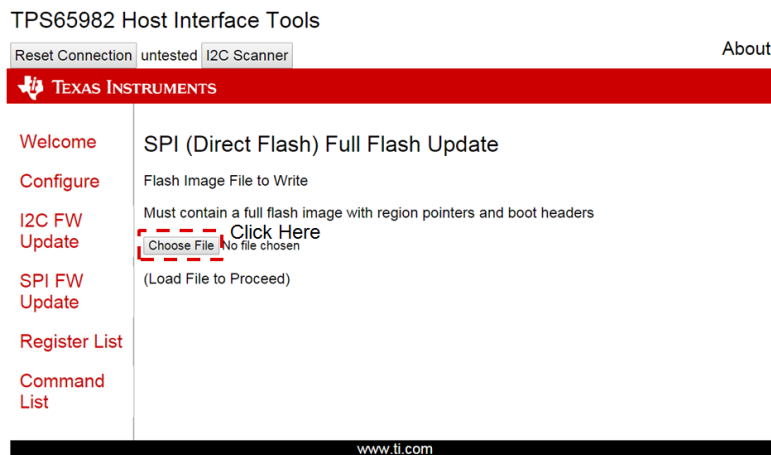
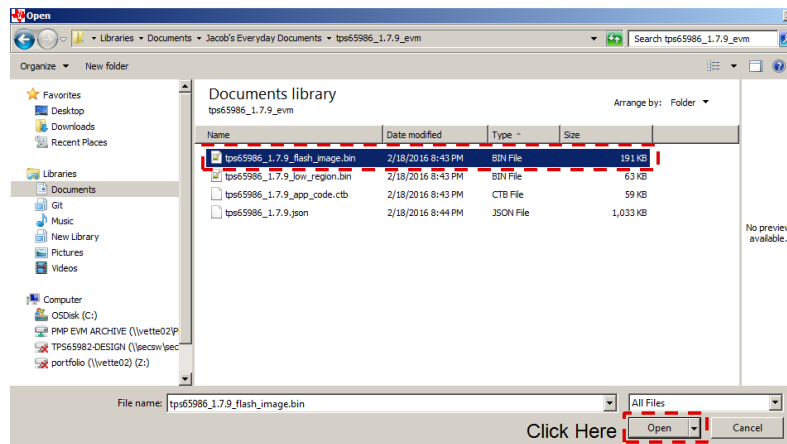

Figure 16. SPI Firmware Update—Choose File
Figure 17. Figure 19. SPI Firmware Update—Select Flash Image (191-KB .bin file)
- Step 2. Choose the TPS65986EVM firmware image to load by clicking on the *Choose File* button (see Figure 16). Select the appropriate EVM image (2 region binary file) in the window and verify that it is 191 KB in size. Click the *Open* button to load the file to the TPS6598x Utilities GUI (see Figure 17).